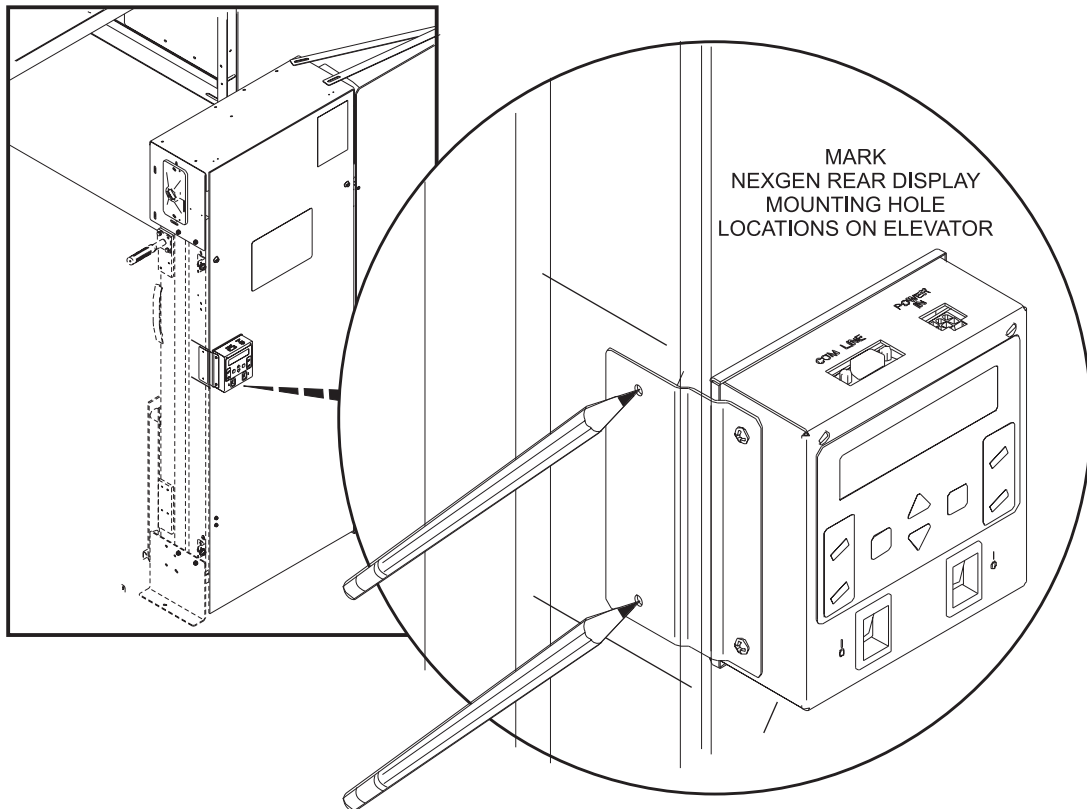

Figure 3
2. Center Remote display between lines marked on side of elevator in *step 1* and mark location of mounting holes. Refer to *Figure 3*.